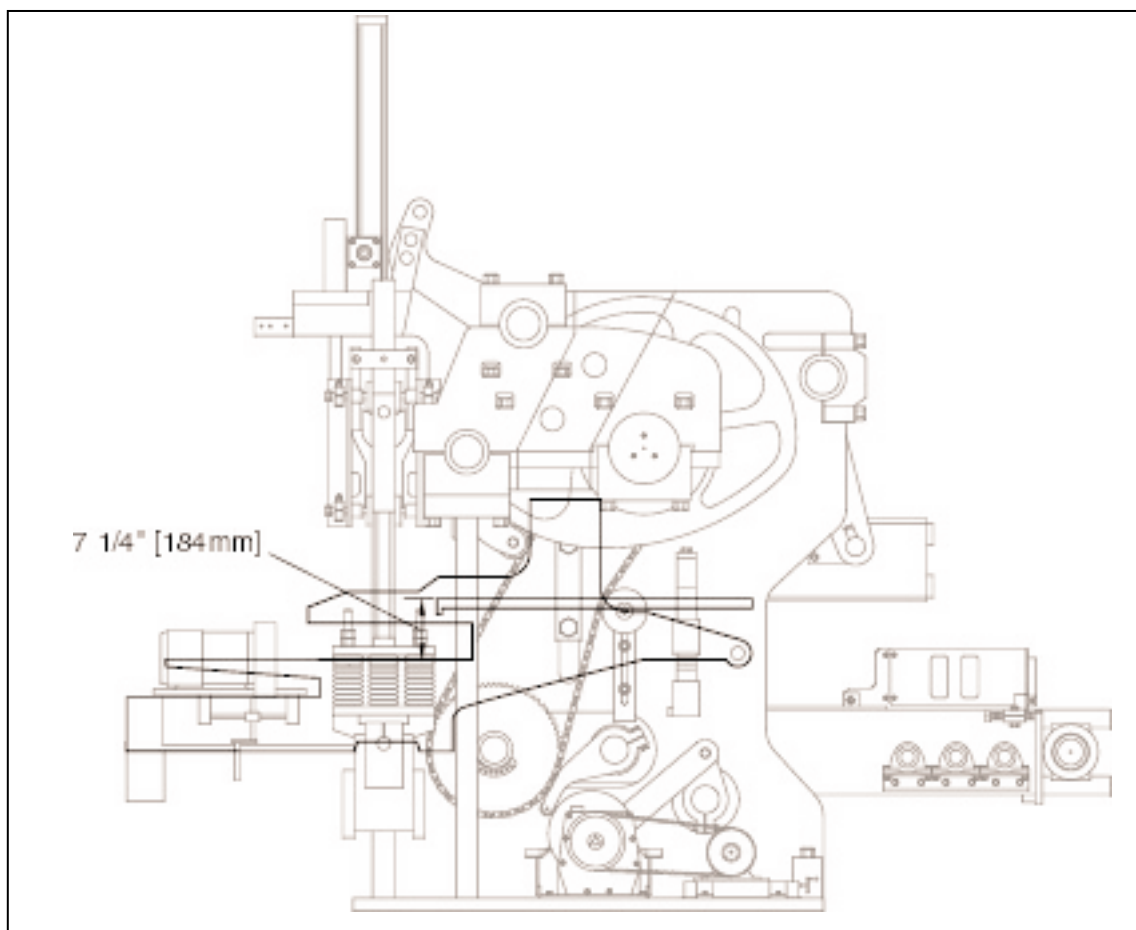

Figure 4.11 APRON PLATE ABOVE MOLD THROAT ADJUSTMENT.
4.1.4 Reconnect autofeed linkage and adjust so that the top of the apron plate is **7 1/4" [184mm]** above the mold throat at the lowest position of the autofeed (see figure 4.11). To adjust, lower or raise the autofeed until apron plate is in correct position.